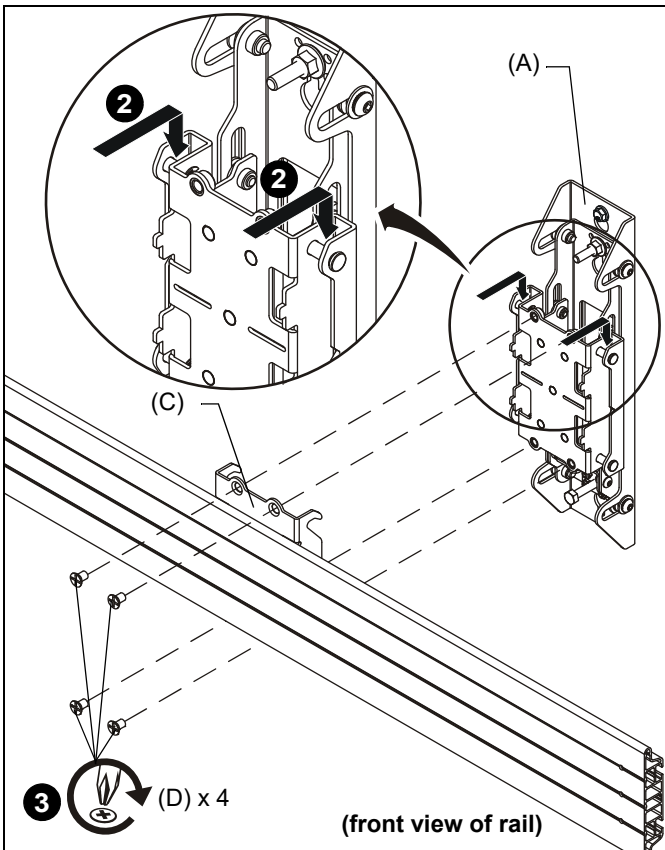

Figure 16
- Hook height adjust plates (C) over wall uprights (A or B). (See Figure 16)
- Fasten mounting rail to wall uprights using four 5/16 x 1/2" Phillips flat head screws (D) through height adjust plate (C) and into wall uprights (A or B) and tighten all screws. (See Figure 16)